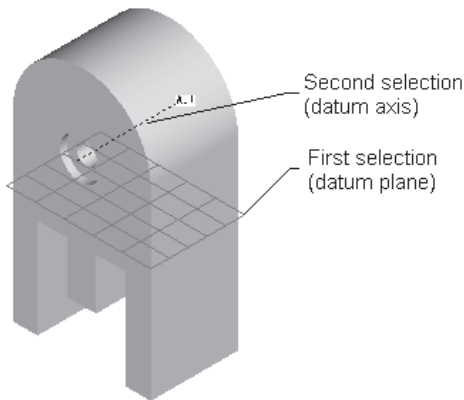
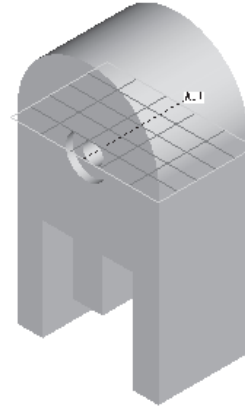

Figure 5-21 Selecting a datum plane and an axis to create a datum plane
Figure 5-22 Resulting datum plane
Figure 5-21 shows the selection of a default datum plane and an axis to create a datum plane. The resulting datum plane is parallel to the selected datum plane and passes through the axis, as shown in Figure 5-22. The steps explaining the procedure to create this datum plane are given next:
1. Invoke the **DATUM PLANE** dialog box. Select the first reference shown in Figure 5-21. The **Offset** constraint is automatically applied and will be displayed in the **References** collector.
- Now, use CTRL+left mouse button to select the second reference shown in Figure 5-21. The **Through** constraint will be displayed in the **References** collector.
- Choose the **OK** button from the **DATUM PLANE** dialog box. The datum plane that is created is shown in Figure 5-22.